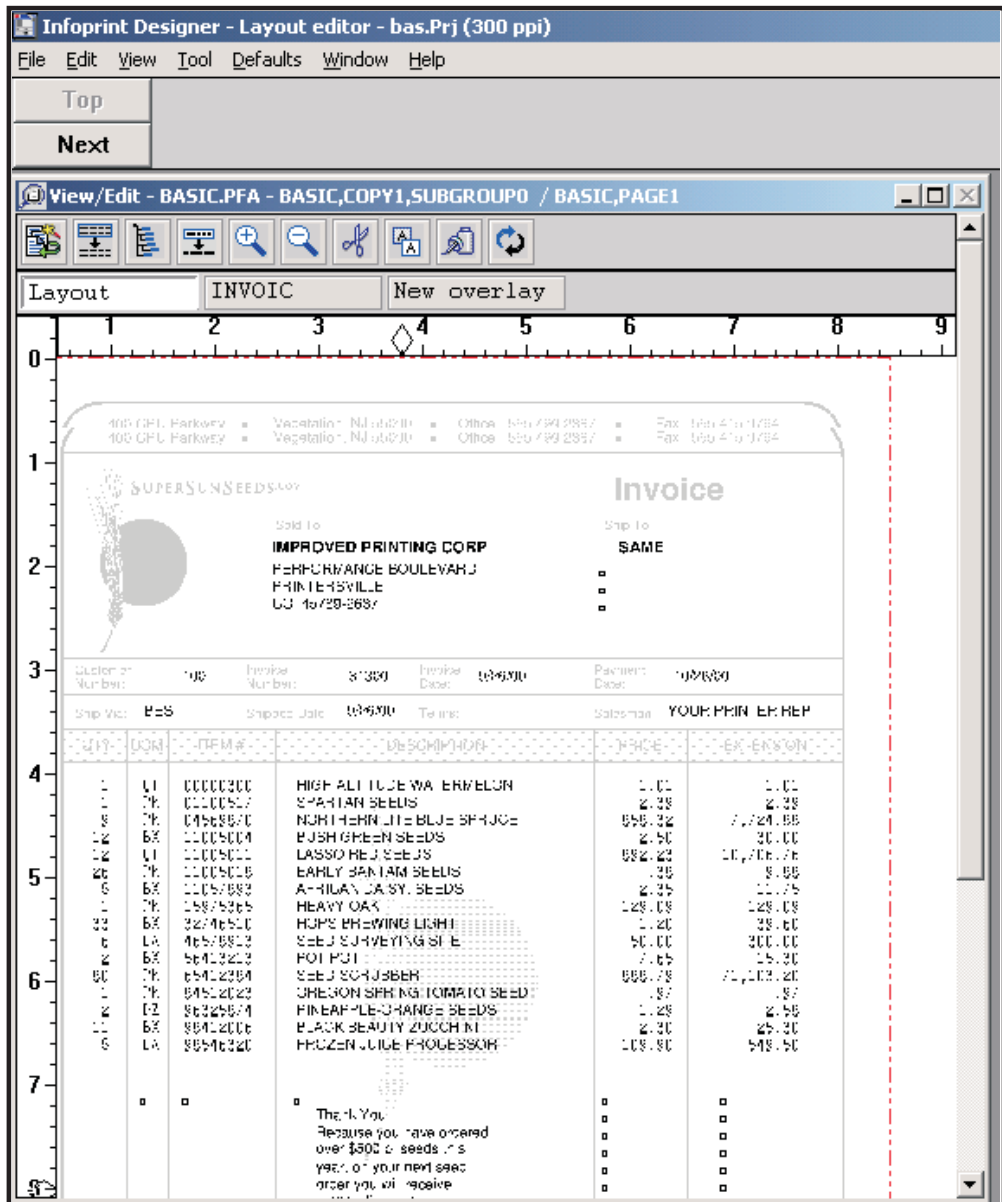

Figure 73. Finished Overlay with Data
15. After you map all of the data onto the overlay, as shown in Figure 73 on page 180, save the project and upload it to the iSeries. To save the project, click **File** and select **Save project**.